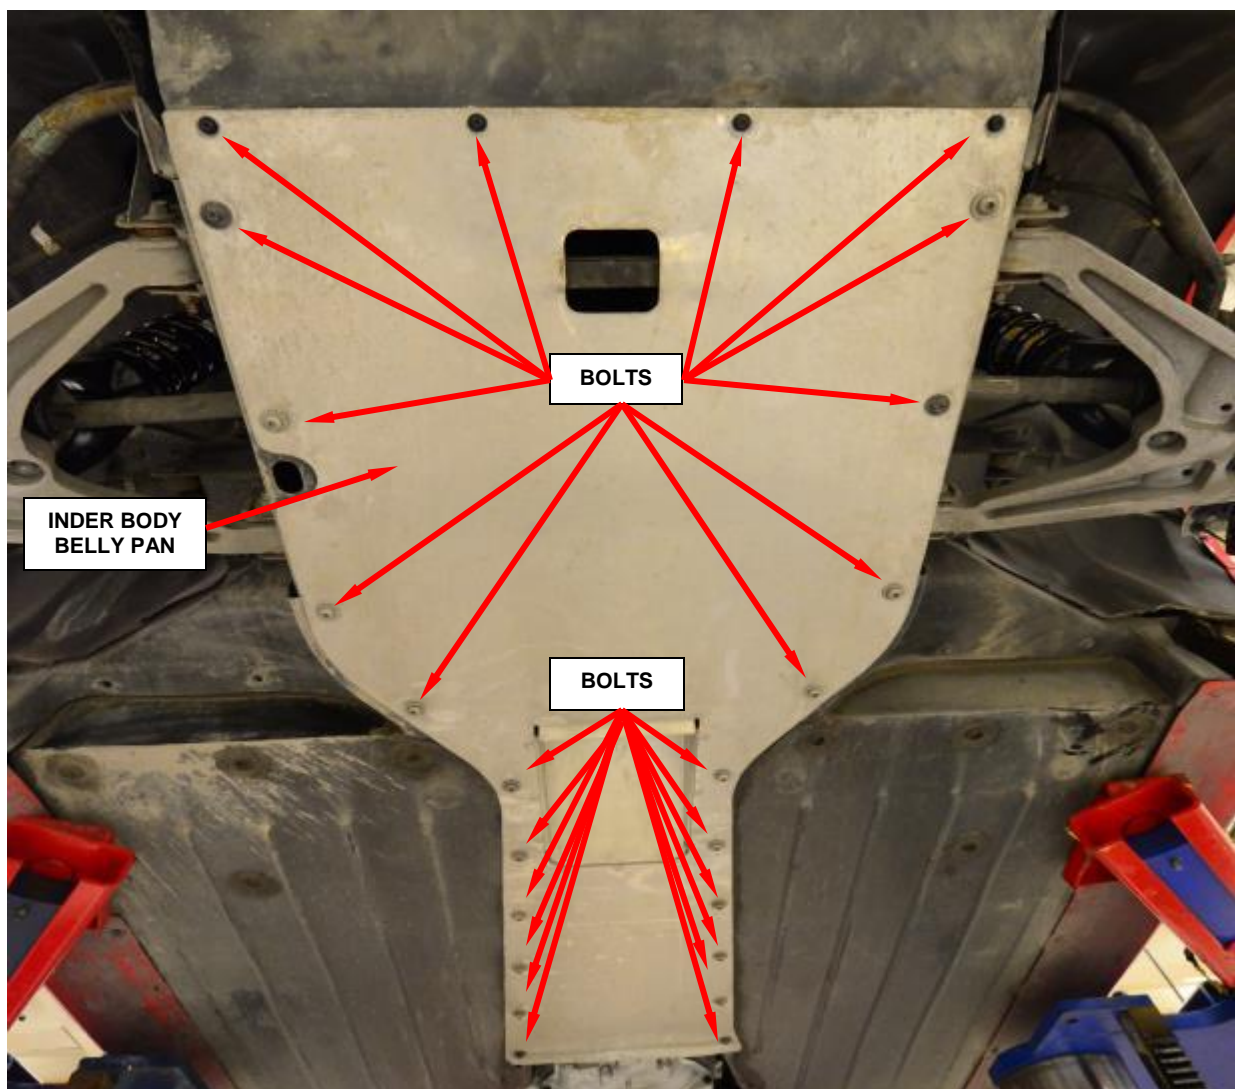

Figure 13 - Under Body Belly Pan
7. Remove and save the twenty four under body belly pan bolts and remove the pan (Figure 13).